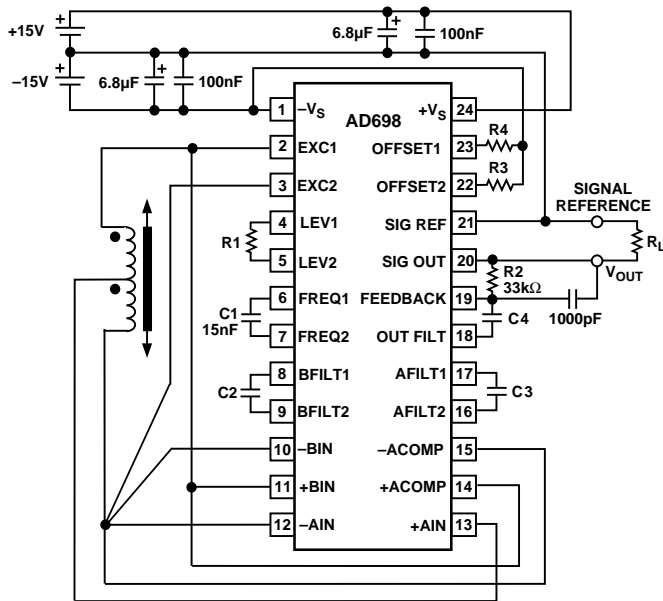
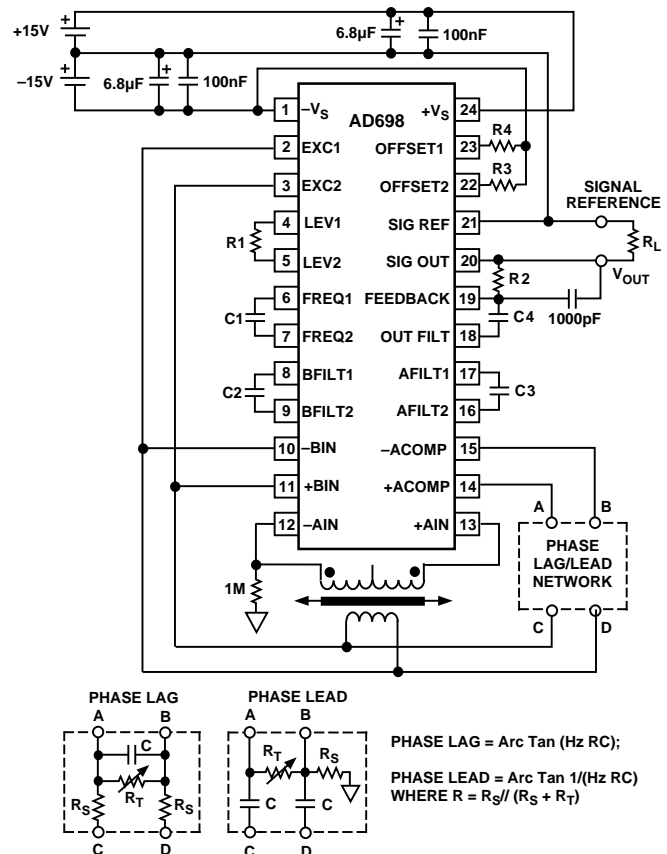
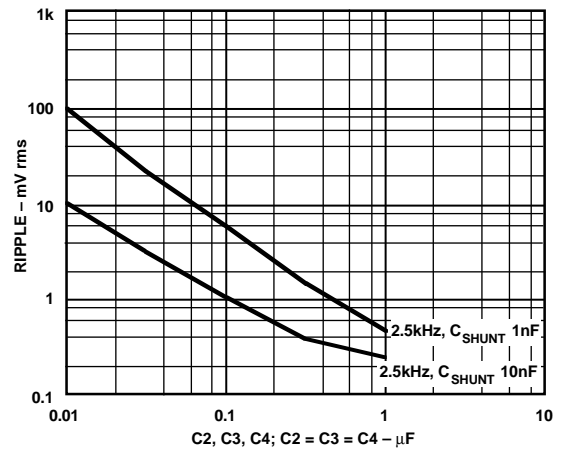

Figure 7. Interconnection Diagram for Half-Bridge LVDT and Dual Supply Operation
Figure 8. AD698 Interconnection Diagram for Series Opposed LVDT and Dual Supply Operation
Figure 17. Output Voltage Ripple vs. Filter Capacitance
- ⁵Output ripple is a function of the AD698 bandwidth determined by C1 and C2. A 1000 pF capacitor should be connected in parallel with R2 to reduce the output ripple. See Figures 7, 8 and 13.
- ⁶R1 is shown in Figures 7, 8 and 13.
The AD698 can easily be connected for dual or single supply operation as shown in Figures 7, 8 and 13. The following general design procedures demonstrate how external component values are selected and can be used for any LVDT that meets AD698 input/output criteria. The connections for the A and B channels and the A channel comparators will depend on which transducer is used. In general follow the guidelines below.
Figure 7 shows the connection method for half-bridge LVDTs. Figure 8 demonstrates the connections for 3- and 4-wire LVDTs connected in the series opposed configuration. Both examples use dual ± 15 volt power supplies.
V_{OUT} is measured with respect to the signal reference, Pin 21, shown in Figure 7.
Figure 16 shows a more limited frequency range with enhanced accuracy. The figures are transfer functions with the input to be considered as a sinusoidally varying mechanical position and the output as the voltage from the AD698; the units of the transfer function are volts per inch. The value of C2, C3, and C4, from Figure 7, are all equal and designated as a parameter in the figures. The response is approximately that of two real poles. However, there is appreciable excess phase at higher frequencies. An additional pole of filtering can be introduced with a shunt capacitor across R2, Figure 7; this will also increase phase lag.
When selecting values of C2, C3 and C4 to set the bandwidth of the system, a trade-off is involved. There is ripple on the “dc” position output voltage, and the magnitude is determined by the filter capacitors. Generally, smaller capacitors will give higher system bandwidth and larger ripple. Figures 17 and 18 show the magnitude of ripple as a function of C2, C3 and C4, again all equal in value. Note also a shunt capacitor across R2, Figure 7, is shown as a parameter. The value of R2 used was 81 kΩ with a Schaevitz E100 LVDT.